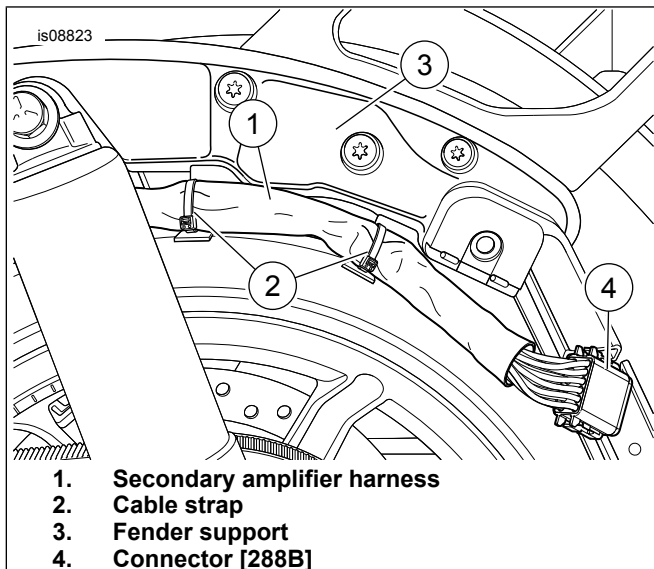

Figure 10. Harness Routing
1. See Figure 10. Route the vehicle-side amplifier harness (1) in the saddlebag mounting area, beginning the vehicle. Route the harness around the rear wheel sprocket, following the saddlebag support rail.